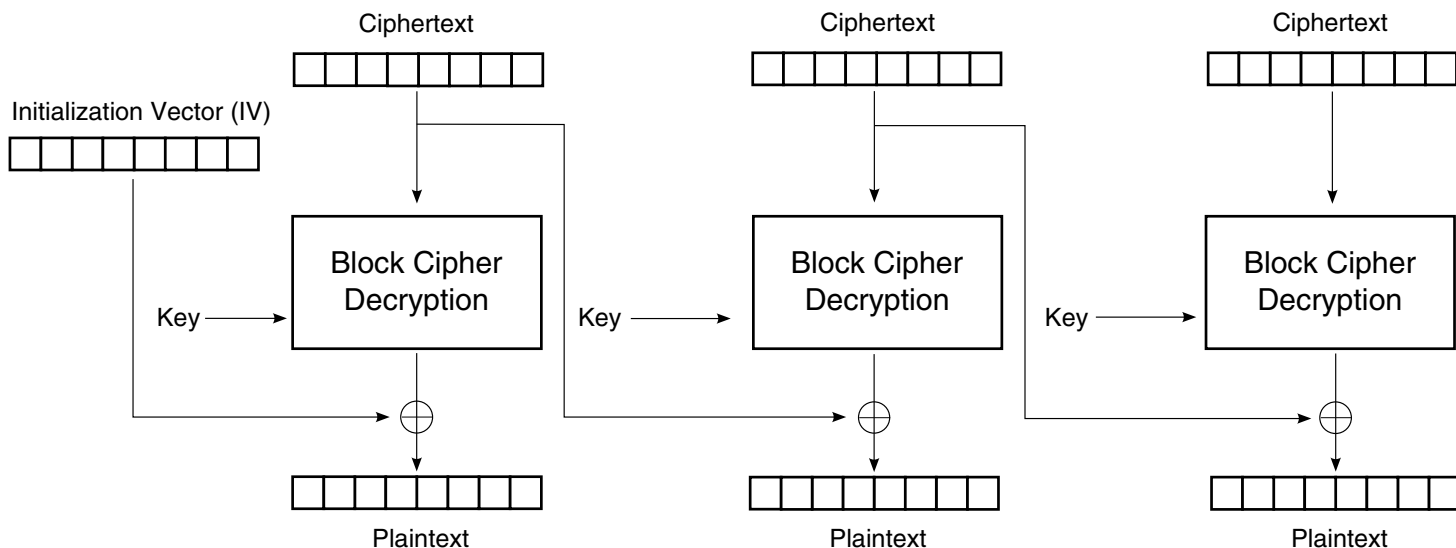

Figure 4-3. Cipher Block Chaining (CBC) Mode Decryption
Decryption (shown in Figure 4-3) works in a similar manner, where the cipher text is first decrypted and then XORed with the previous ciphertext. For the first encryption/decryption operation, an initialization vector (IV) is used to seed the operation. The IV must be the same for both the encryption and decryption steps; otherwise, decrypted data will not match the original plaintext.